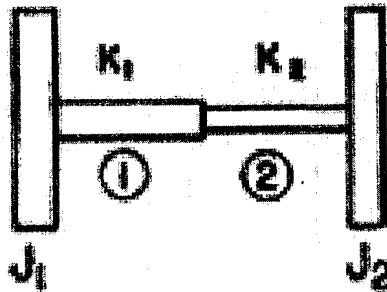

Figure 1
1. Figure 1 shows two rigid discs of moment of inertias  $J_1$  and  $J_2$  connected by a stepped shaft with torsional stiffnesses of two parts given by  $K_1$  and  $K_2$  as indicated in the figure. Neglecting the inertia of the shaft, determine the natural frequency of torsional oscillation of the system. (9)